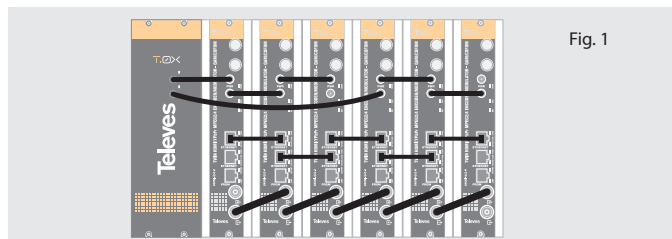

Fig. 1
1. Install all units in the rack and connect them as shown in Figure 1.